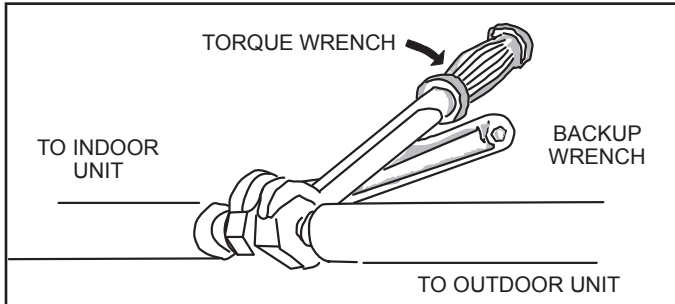

**Figure 15. Making Connections at Indoor Unit (Male to Female Connection)**
5. Apply recommended R-410A refrigerant lubricant to the outside of the field-provided flared line sets (figure 15 -- A).
6. Align the union tube and flared refrigerant lines with each other, then tighten the flare nuts lightly at first to obtain a smooth match (figure 15 -- B).